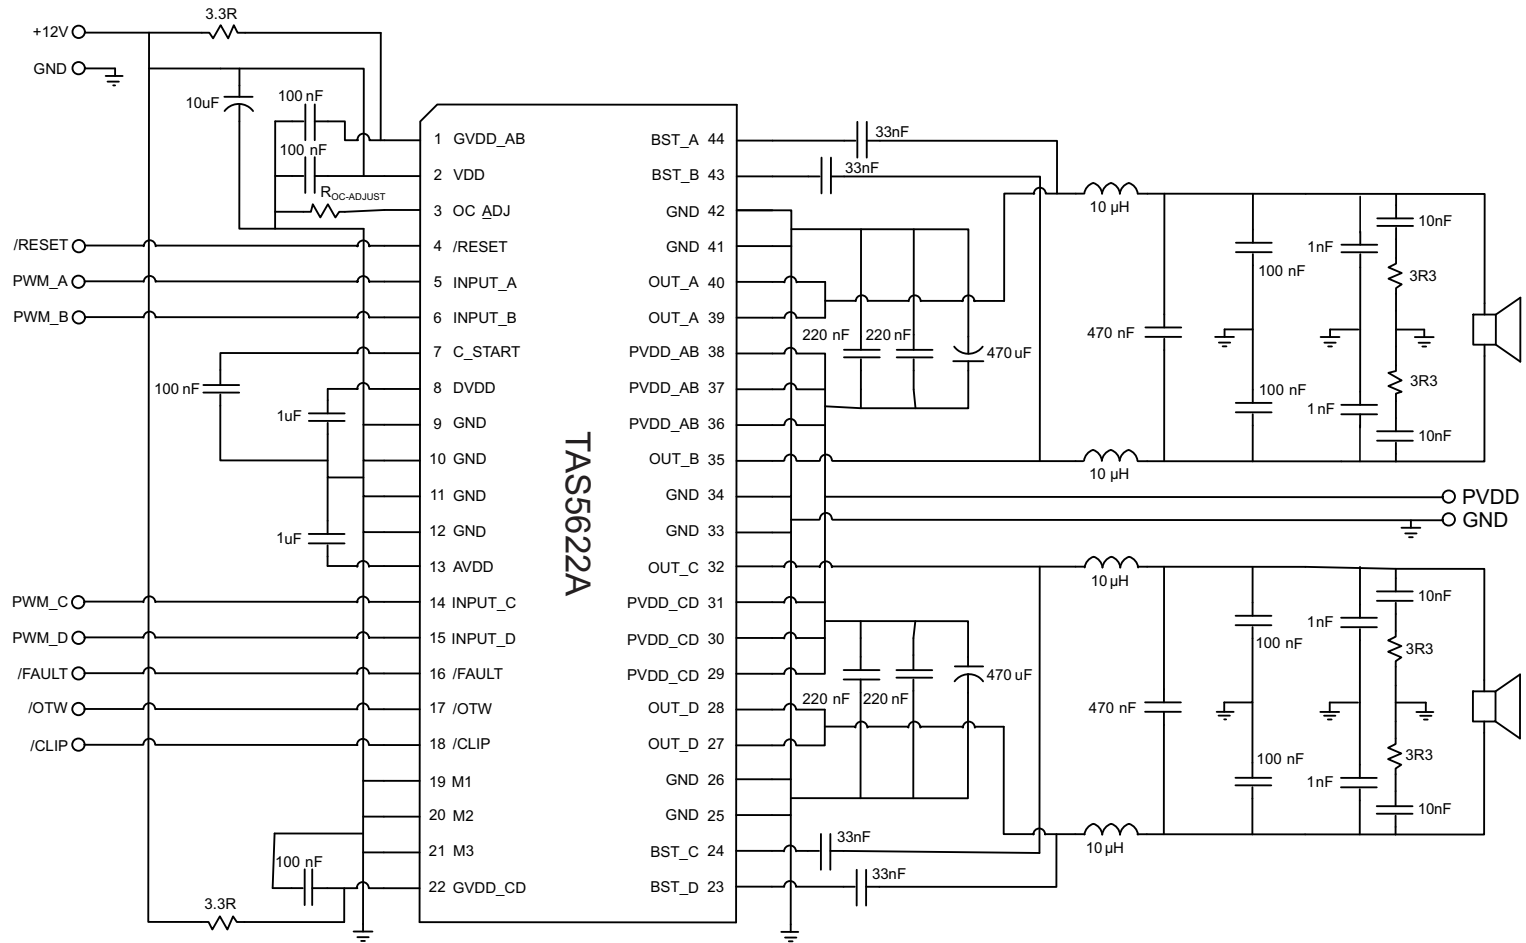

图 16. Typical Differential (2N) BTL Application With AD Modulation Filters
See 图 16 for application schematic. In this application, differential PWM inputs are used with AD modulation from the PWM modulator (that is, TAS5558). AD modulation scheme is defined as PWM(+) is opposite polarity from PWM(-).
- Pins 27, 28, 32, 35, 39, 40 - Output pins from half-bridges A, B, C, and D. Connect appropriate bootstrap capacitors and differential LC filter as shown in 图 16.
- Pins 29, 30, 31, 36, 37, 38 - Power supply pins to half-bridges A, B, C, and D. A and B form a full-bridge and C and D form another full-bridge. A 470-μF bulk capacitor is recommended for each full-bridge power pins. Two 0.22-μF decoupling capacitors are placed on each full-bridge power pins. See 图 16 for details.